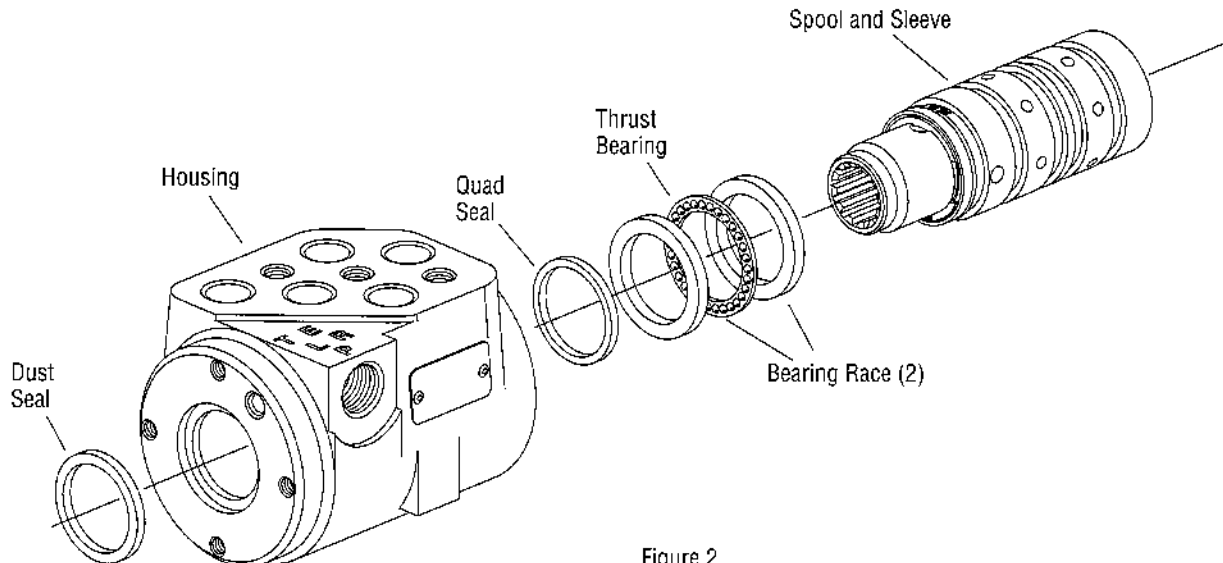

Figure 2
3 Slide the spool and sleeve from the housing, see figure 2.
- 17 Put the thrust bearing and races into the housing. The thrust bearing goes between the two races, see figure 2.